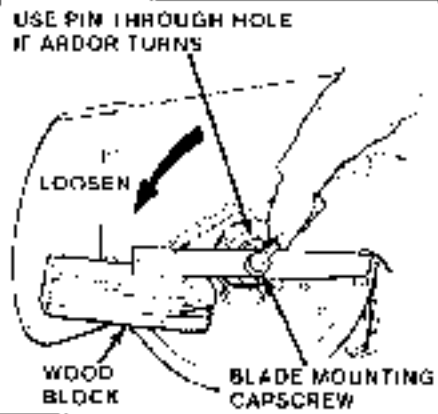

Figure 16. Removing Blade
2. Position the mower as in figure 16.
4. To remove the blade for sharpening, use a wooden block to hold blade while removing the cap screw (figure 16). Position the wrench as shown so that your hand will not fall onto the blade cutting edge if wrench slippage occurs.